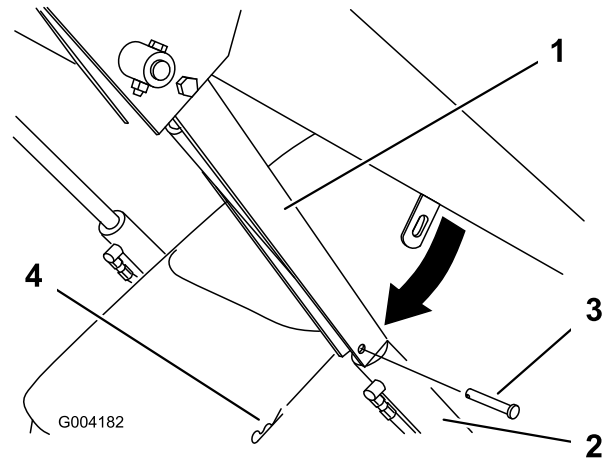

Figure 17
4. Remove the hairpin cotter and clevis pin securing the cylinder lock to the loader arm (Figure 17).
5. Lower the cylinder lock over the cylinder rod and secure it with the clevis pin and hairpin cotter (Figure 17).